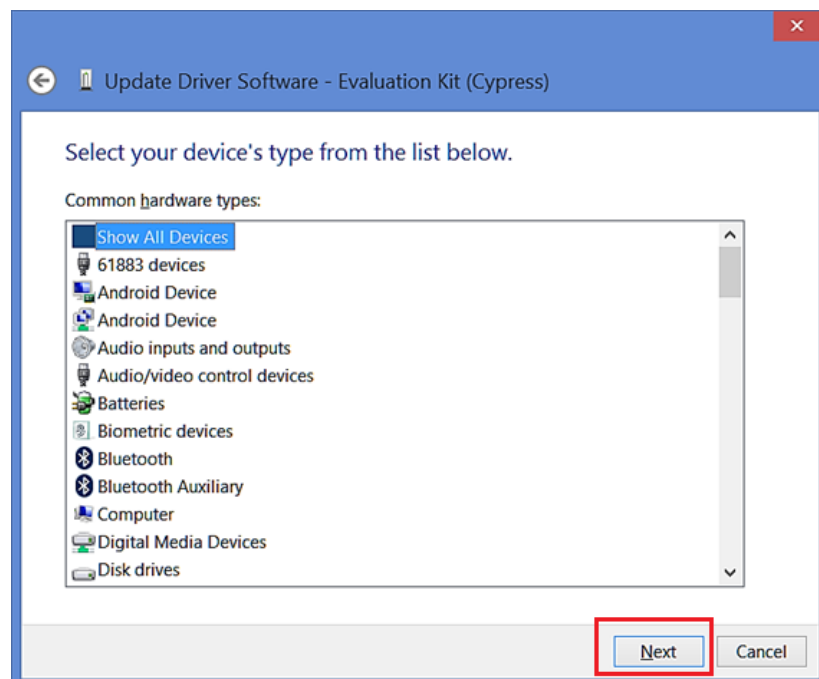

Figure 17. Update Driver Software - 3
6. Choose "Next" (the selection in the list does not matter) (Figure 17):